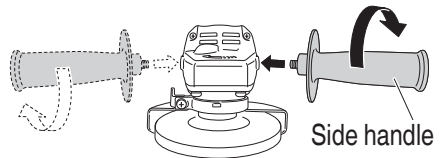

Fig. 11
1. Hold the grinder firmly by its housing and side handle (Fig. 11).